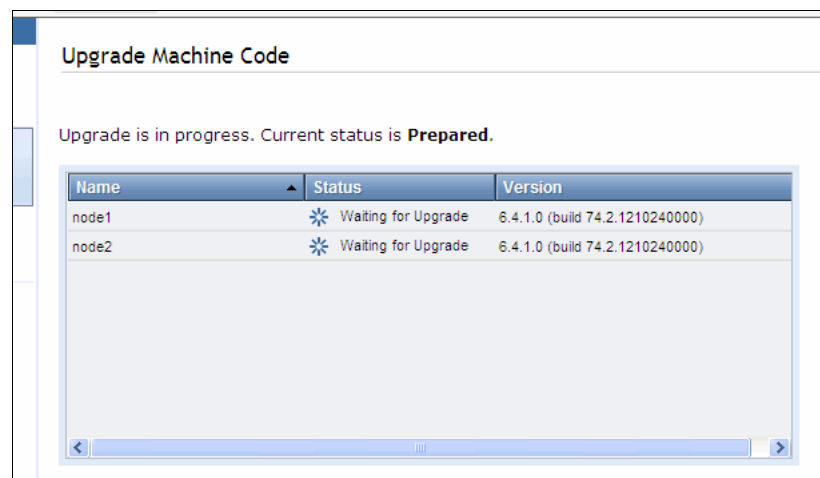

Figure 9-32 Node status to Waiting for Upgrade
2. Both nodes are set to Waiting for Upgrade status in the Upgrade Machine Code panel, as shown in Figure 9-32.